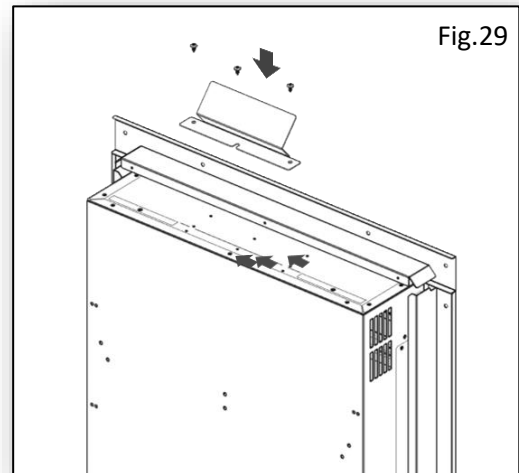

Fig.29
41. Screw the back panel clamp bracket to the top of the Fire (J) using 3x 10mm dome head screws supplied with the Fire (J). See Fig.29.
There are three mounting positions dependent on the back panel thickness. The middle fixing point is suitable for 18mm back panel thicknesses. See Fig.29.